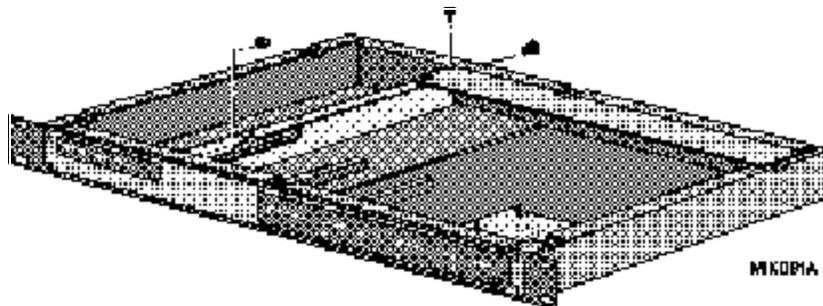

Figure 6. Install the ACG Option Card Bracket
8. Insert and tighten the screw removed from the back panel, and from the Back Panel PCB. Replace the nut on the front panel threaded stud to secure the bracket. (See Figure 6.)